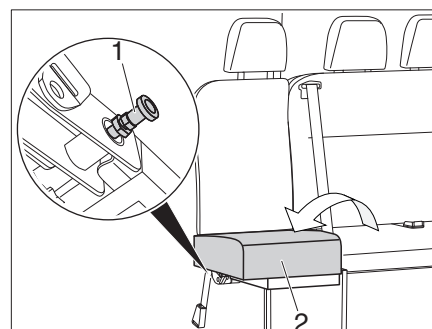

Fig. 41 Fold out seat
- Fold out the seat (Fig. 41,2) and secure it with the lock (Fig. 41,1).